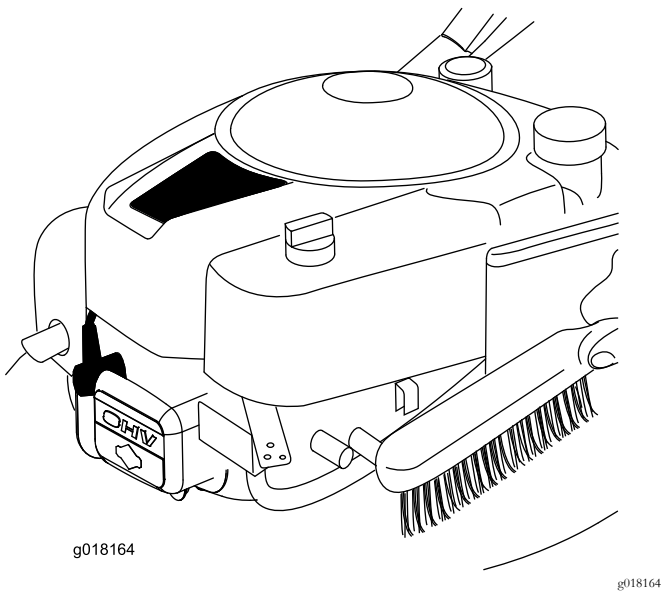

Figure 27
- Remove all grass and debris from the engine including the exhaust/exhaust guard, the airways in the top cowl, and the surrounding deck using a brush or compressed air (Figure 27).